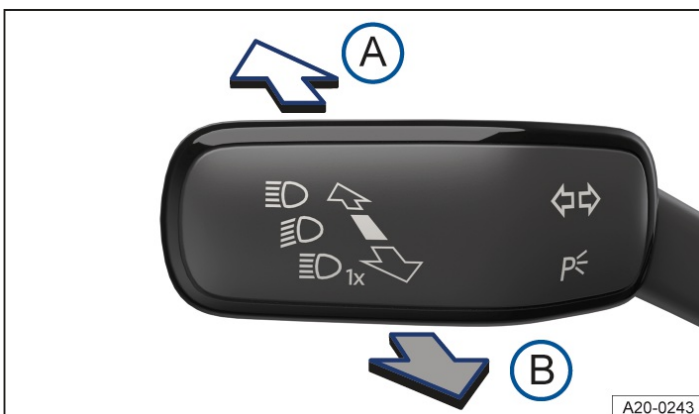

Fig. 1 On the left-hand side of the steering column: turn signal and main beam lever.
3. Push the turn signal and main beam lever forwards from the centre position → Fig. 1.
1. Pull the turn signal and main beam lever to the rear from the centre position → Fig. 1.
1. Pull the turn signal and main beam lever to the rear from the centre position and hold it → *Fig. 1*.